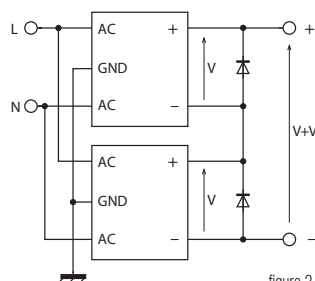

figure 2
**Connection in series of two power supply units:** possible by connecting a diode in anti-parallel to the output of each power supply unit, dimensioned to withstand the max. current of the power supply unit (see Figure 2).